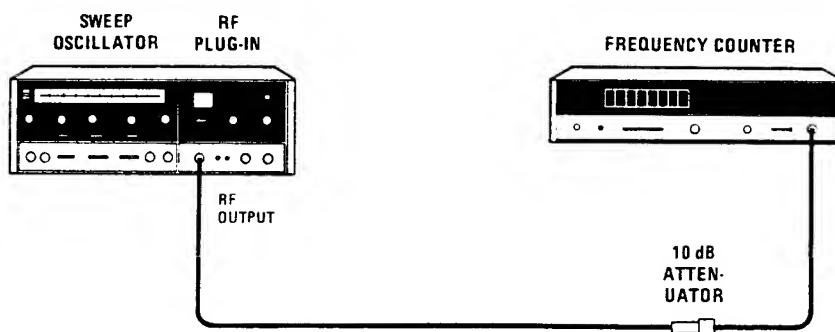

Figure 4-17. Digital-to-Analog Converter Test Setup
- Connect equipment as shown in Figure 4-17.